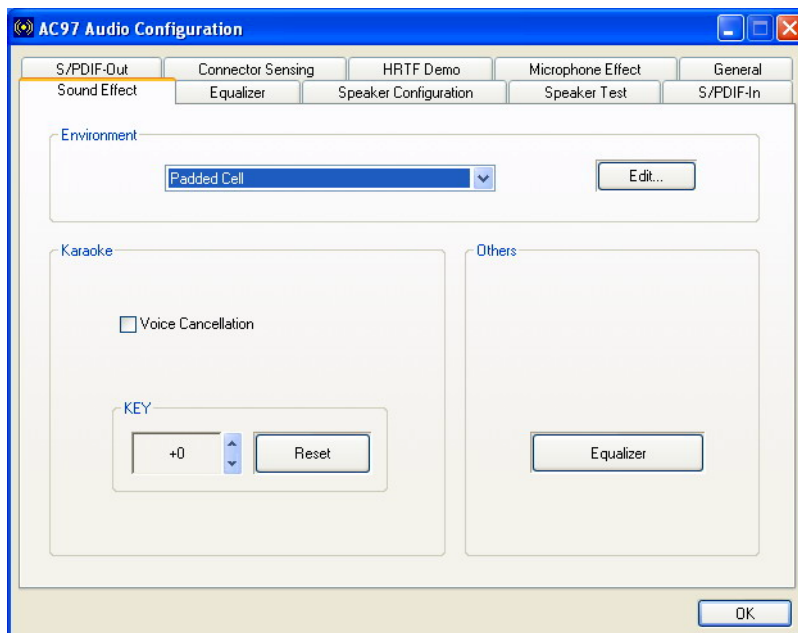

Figure D-4: Sound Effects Manager (ALC655)
**Step 3:** The sound effect manager appears. (See Figure D-4)
The Sound Effect Manager shown in **Figure D-4** is for the RealTek ALC655 audio CODEC. Different CODECs may have different sound manager appearances.
The **Sound Effects Manager** enables configuration of the items listed below. To configure these items click the corresponding menu tab in the **Sound Effects Manager** in **Figure D-4**.